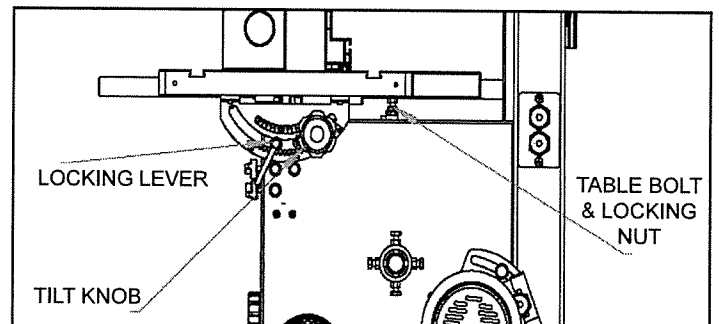

FIGURE 11
3. Make sure that the 90° Table Rest Bolt (#18C) is not interfering with this process. Loosen the bolt's Locking Nut (#17C) and screw the bolt downward, away from the underside of the table. FIG. 11.
7. Retighten the table rest's locking nut making sure that the 90° table angle setting is maintained. FIG. 11.